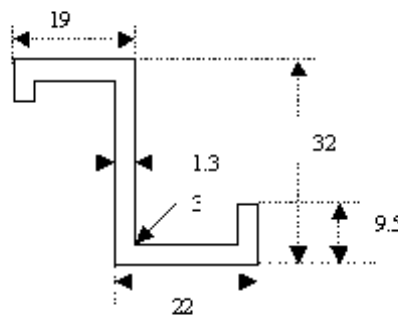

Figure 4
4. "Z" stiffener shown in Figure 4 is one of the several stiffeners riveted to skins of thickness 0.8mm and of same material as the stiffener. If the length of the panel is 500mm what will be the column failing stress if end fixity  $c=1.5$ . Use method involving sheet effective widths.(All dimensions are in mm). [16]